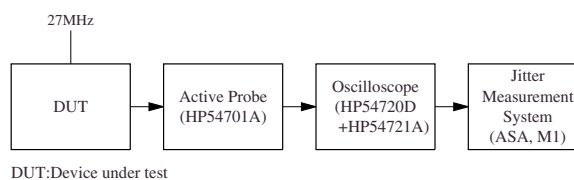

Figure 2. Measurement circuit 2
*3. Measured using the circuit shown in figure 2 on the NPC standard evaluation board.